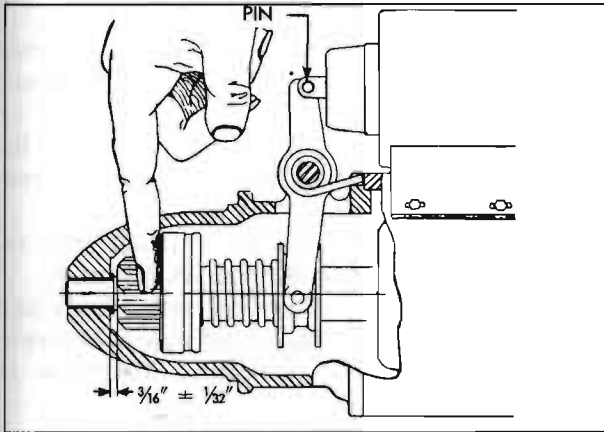

Figure 10-53—Checking Pinion Clearance
3. Press finger lightly against outer side of drive assembly shell to take out all lash in shift linkage, but without compressing the clutch spring. Measure clearance between end of pinion and machined surface on drive housing. Clearance should be  $\frac{3}{16}'' \pm \frac{1}{32}''$ . See figure 10-53.